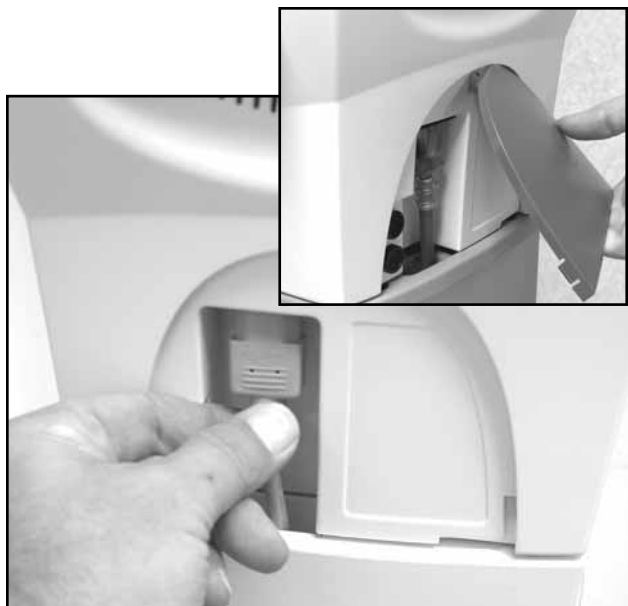

FIGURE 6.9
12. Route Power Cord through Module to Therapy System. See Figure 6.9. Re-install Rear Panel. Plug Power Cord into an approved power outlet.